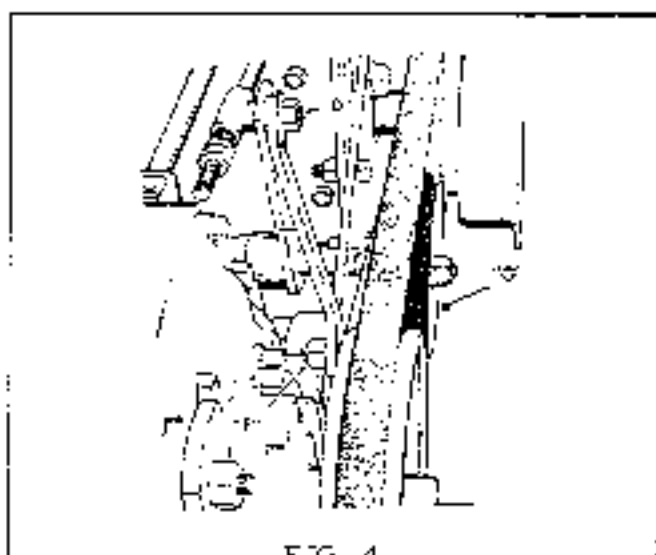

FIG. 4
1. With clutch and brake pedal in normal position (i. e., clutch engaged and brake released), adjust hex nuts (A) to give $3/4$ " clearance between rod guide assembly (B) and nuts. (See Fig. 4).
3. Adjust nut (D) to permit clutch link (E) to pivot freely without excessive play. (See Fig. 4).
4. Adjust nut (F) to permit clutch link (E) to pivot freely without excessive play and check to see that nut has at least 1-1/2" of travel before touching transmission case. (See Fig. 4).
6. To compensate for belt stretch or other variances it may be necessary to move idler pulley (G) Fig. 4 into the alternate hole provided in its lever arm.